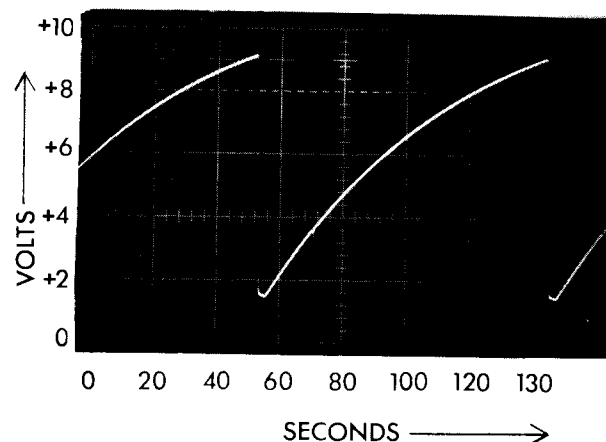

FIGURE 4
- a. Should observe 11 KHZ RC sawtooth wave. See Figure 4.